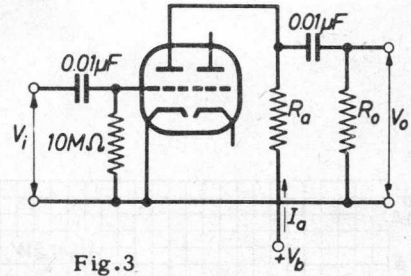

Fig. 3
A.F. amplifier Fig.3 see page 9 Input source resistance = 330 k Ω